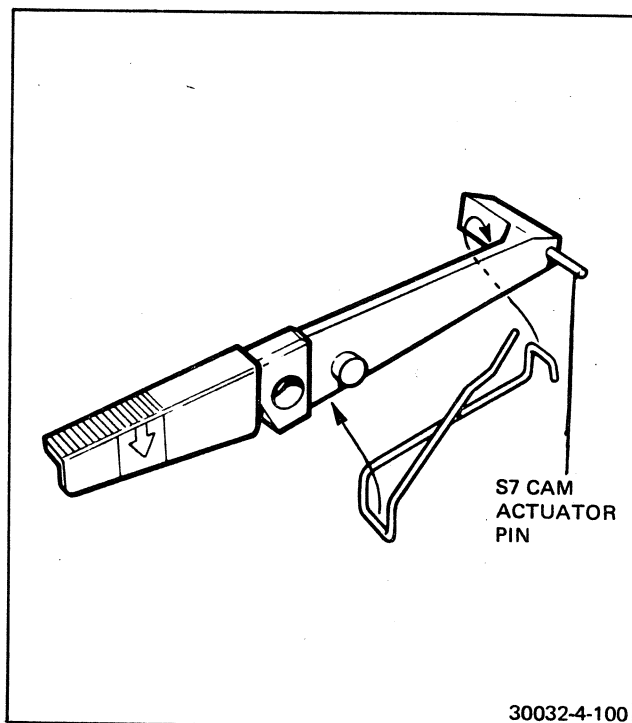
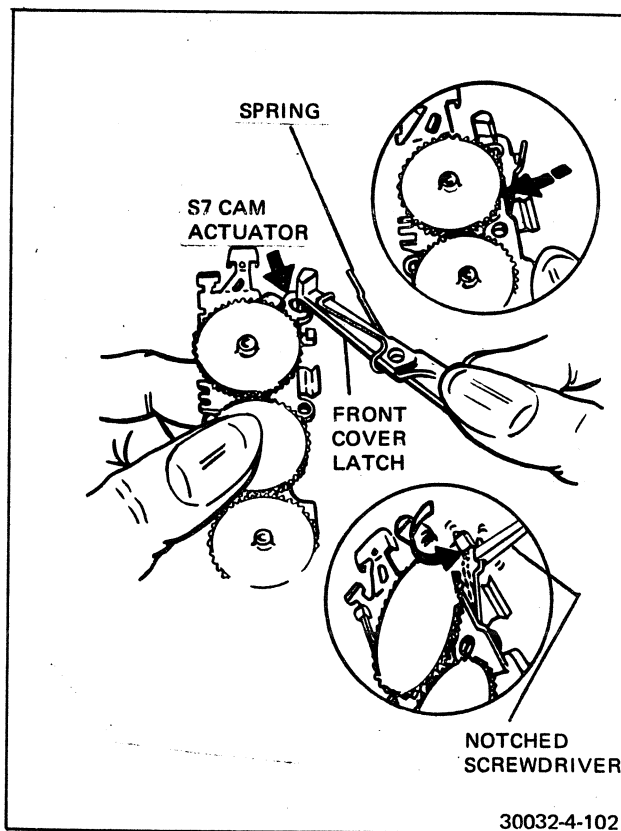

FIGURE 4-100 FRONT COVER LATCH SPRING
FIGURE 4-102 INSTALLING FRONT COVER LATCH & SPRING
34. See Figure 4-100. Identify the front cover latch spring.
36. On the gear train assembly identify the S7 cam actuator. Insert the S7 cam actuator pin (Figure 4-100) into the cam actuator (Figure 4-102).
40. Use notched screw driver and slide ends of latch spring under the clip on the outer plate (Figure 4-102).